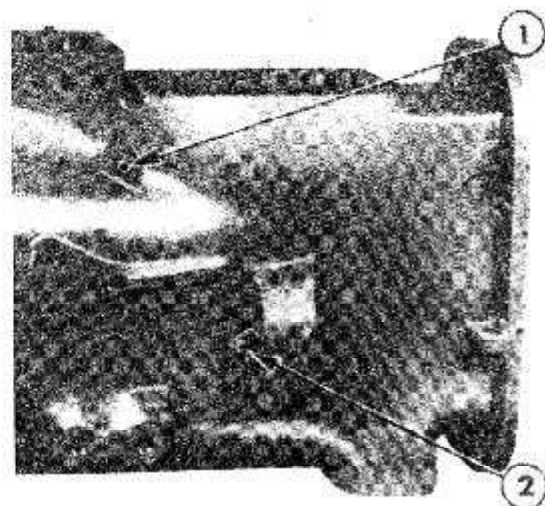

Figure 23
1. Extract the four shift rail plungers and springs from their bores, Figure 23. Pull the high/low shift fork rearwards and remove the sliding
7. Unscrew the reverse idler shaft retaining bolt, located on the left-hand side of the transmission case, Figure 23. Push the idler shaft forwards and remove the 4th/8th shift fork.